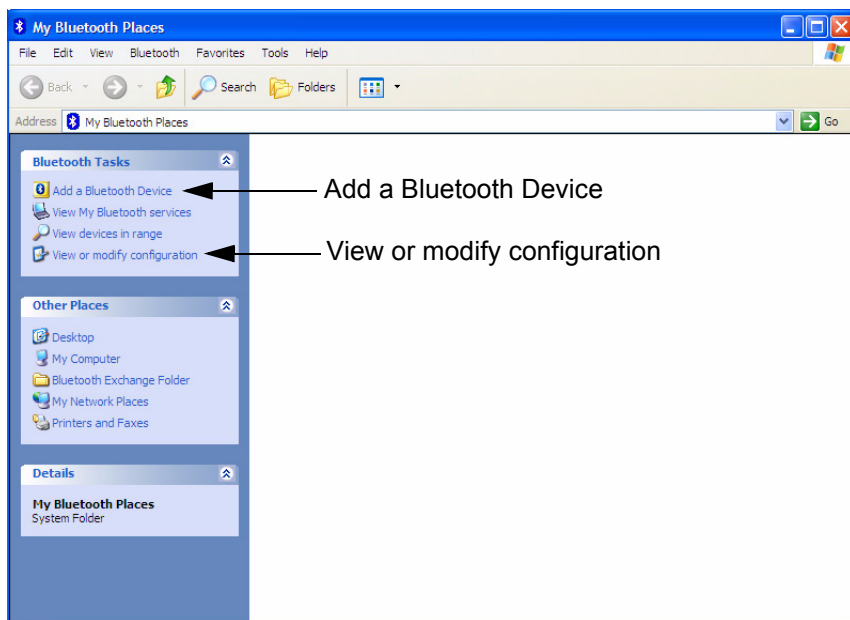

Figure 3-32 My Bluetooth Places "View or modify configuration"
8.) In the displayed window, double-click "Add a Bluetooth Device" (see Figure 3-32 on page 3-38).